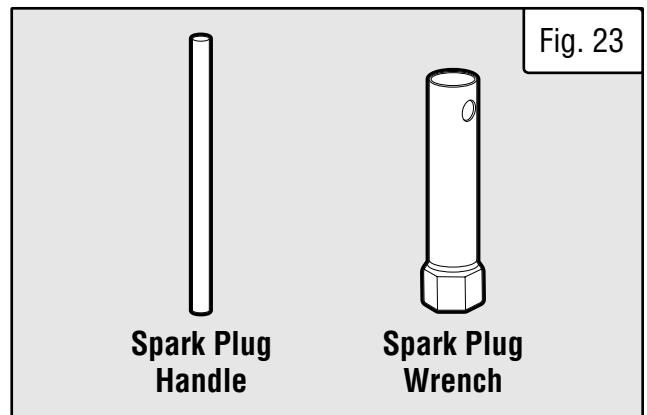

Fig. 23
2. Use included spark plug wrench to unscrew spark plug from the engine. Remove the spark plug from the engine. (Fig. 23)